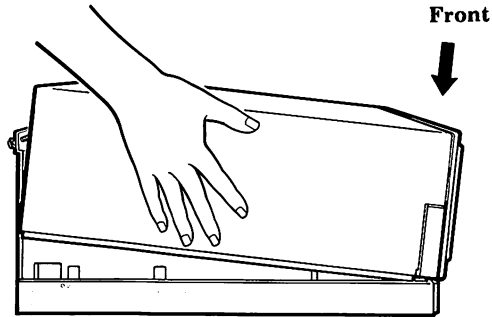

Figure 2-7. Replacing the top cover
- Lower the front of the cover into place. Press in on the sides of the cover as you lower them into place, making sure the cover edges fit inside the processor frame (Fig. 2-7).